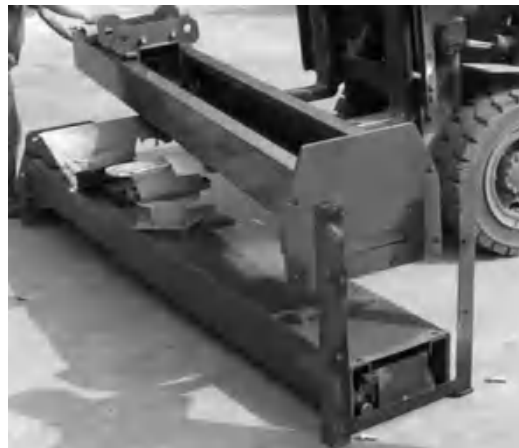

Fig. 13
4. Lift the upper column with a fork lift or hoist, loose the upper bolts of package bracket, then take out the parts inside the column. **(See Fig. 13)**